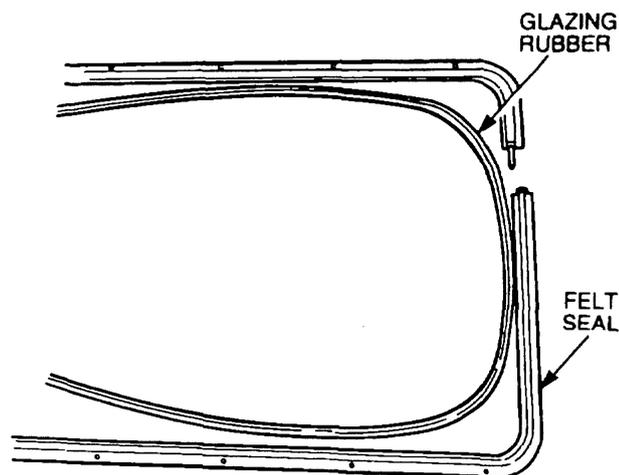

Figure 229 Glazing Rubber Removal
- i. Remove the glazing rubber from the frame and, if necessary, remove the felt seals (Figure 229).